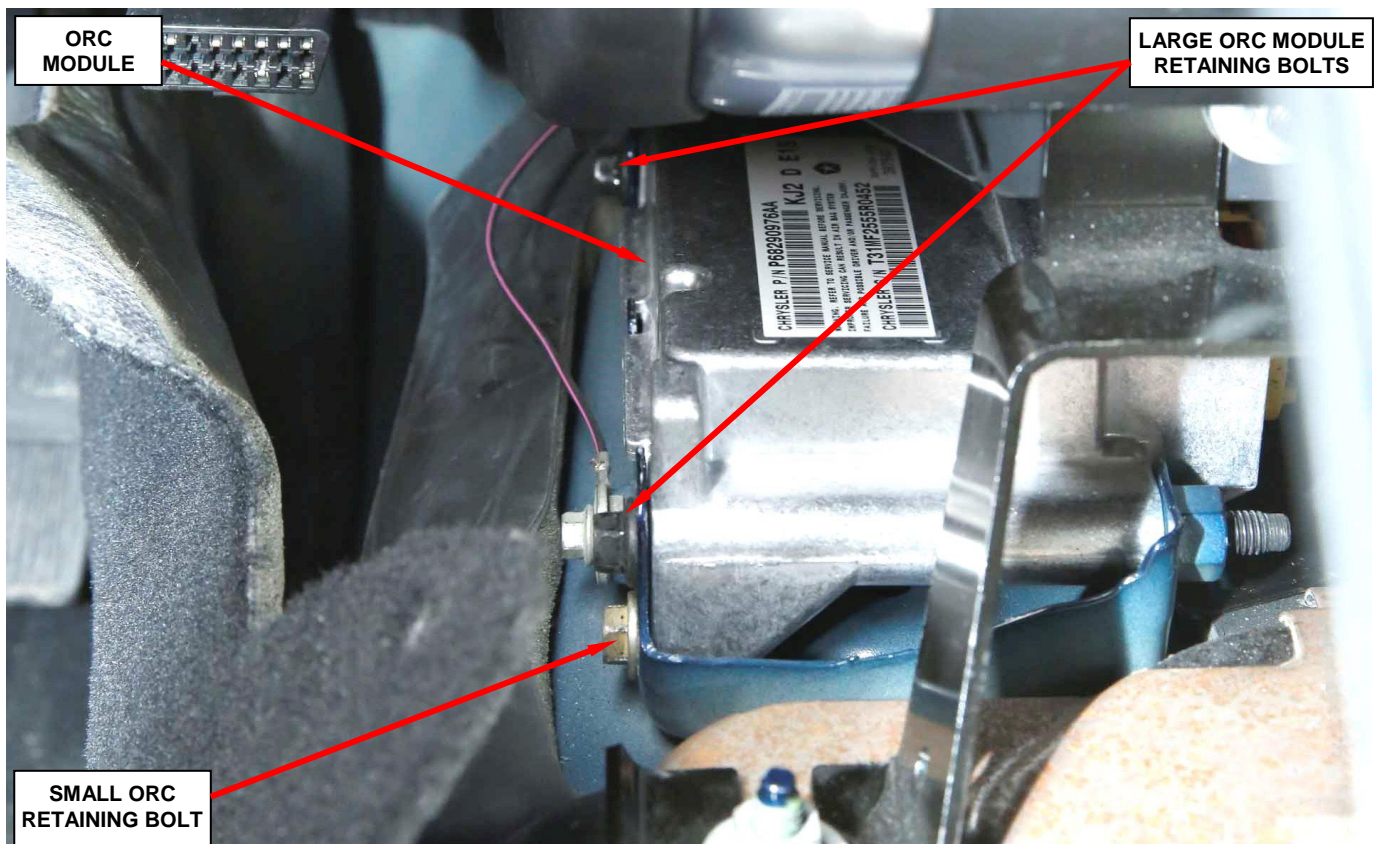

Figure 8 – Install Three ORC Module Retaining Bolts
19. Install the three retaining bolts. Tighten the two large retaining bolts to 26 ft. lbs. (36 N·m). Tighten the small retaining bolt to 105 in. lbs. (12 N·m) (Figure 8).